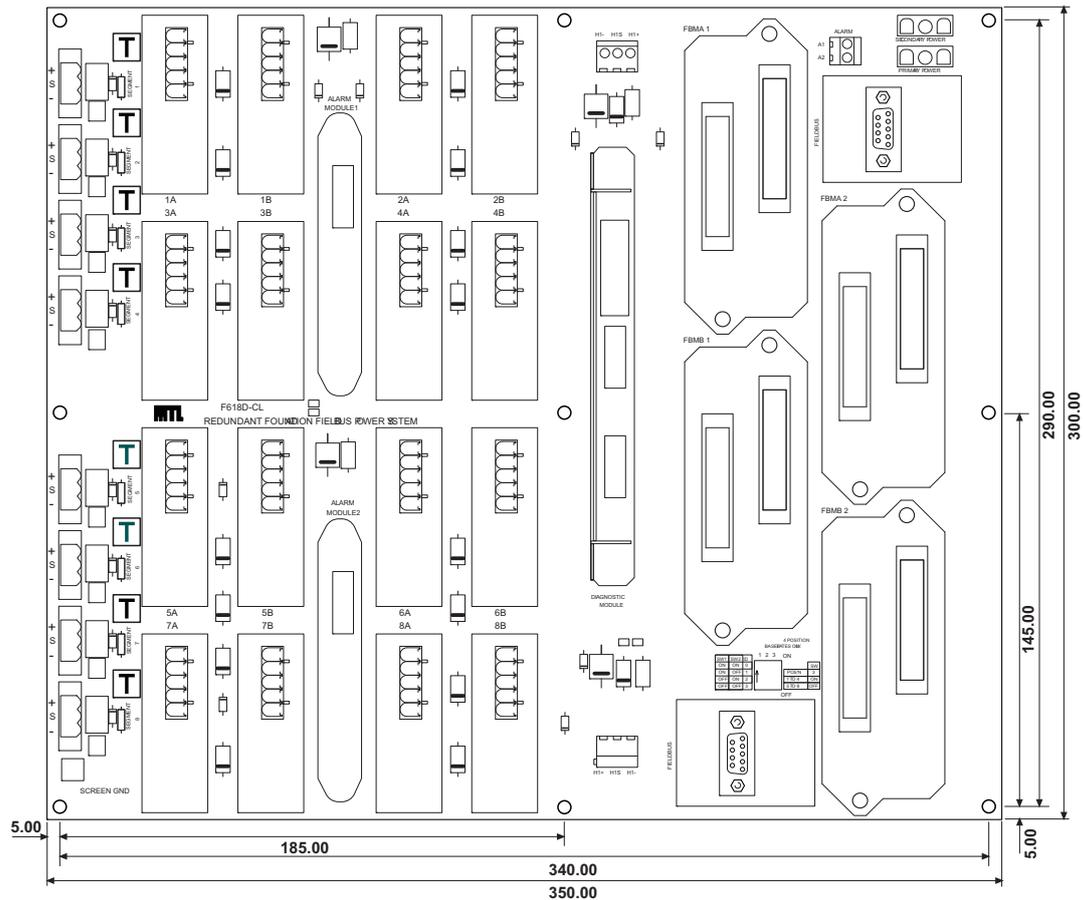

Figure 4.1 - F618D baseplate dimensions and mounting hole locations - see text for height dimension
Important dimensions for the F618D baseplate are shown in Figure 4.1. The absolute maximum height from the underside of the board, including the front mounted connector on the F809F module, is 155mm.
It is recommended that the F618D baseplate is mounted on a vertical surface with the orientation of the IPM modules as shown in Figure 4.1 above. Any other orientation will not provide optimum airflow for the FPS-IPM power conditioning modules. Nine 5mm diameter mounting holes are provided for surface or DIN-rail mounting.
Refer to figure 4.1.
Refer to figures 4.1 and 4.3.
4.4.1 Prepare DIN rail (Refer to Figure 4.1 & 4.5)
Refer to figures 4.1 and 4.6.